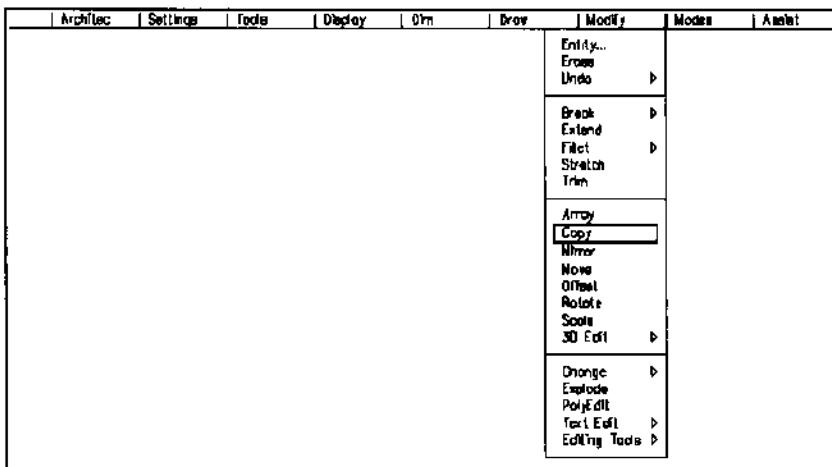

Figure 13.
2. Select Copy from the Modify pulldown menu shown in Figure 13.